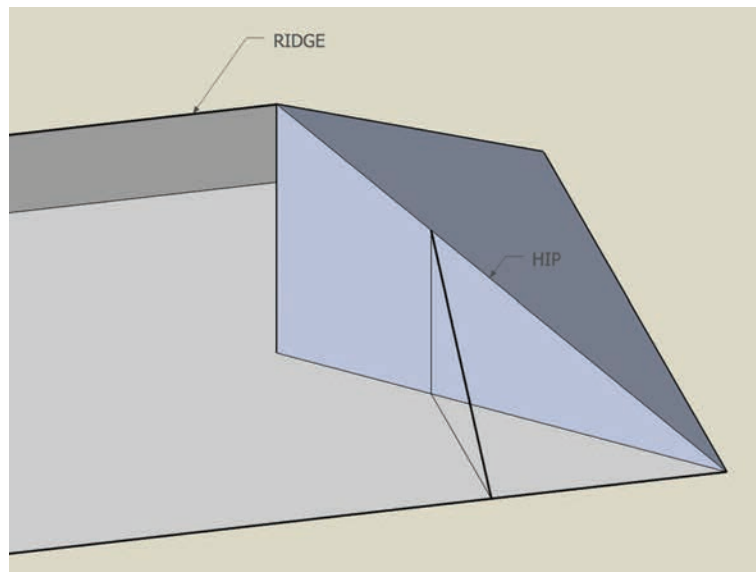
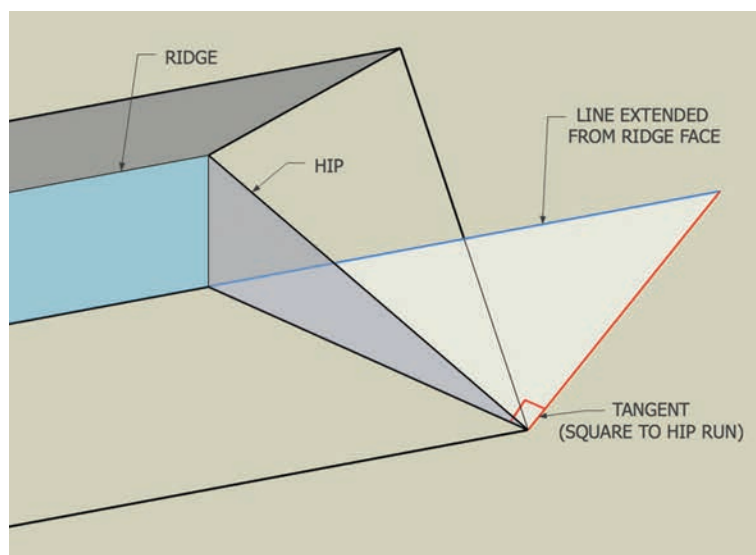

Fig. 9. Rendering of adjacent roof showing hip plane.
Fig. 10. Striking tangent square to the hip run to meet a second line representing plane of ridge face.
**L**OOK at the hip run in Fig. 9, and suppose the hip is bearing against a ridge at the peak. Following our drawing script, (and with the reader drawing in plan), strike a line square to the hip run from the foot of the hip (Fig. 10).